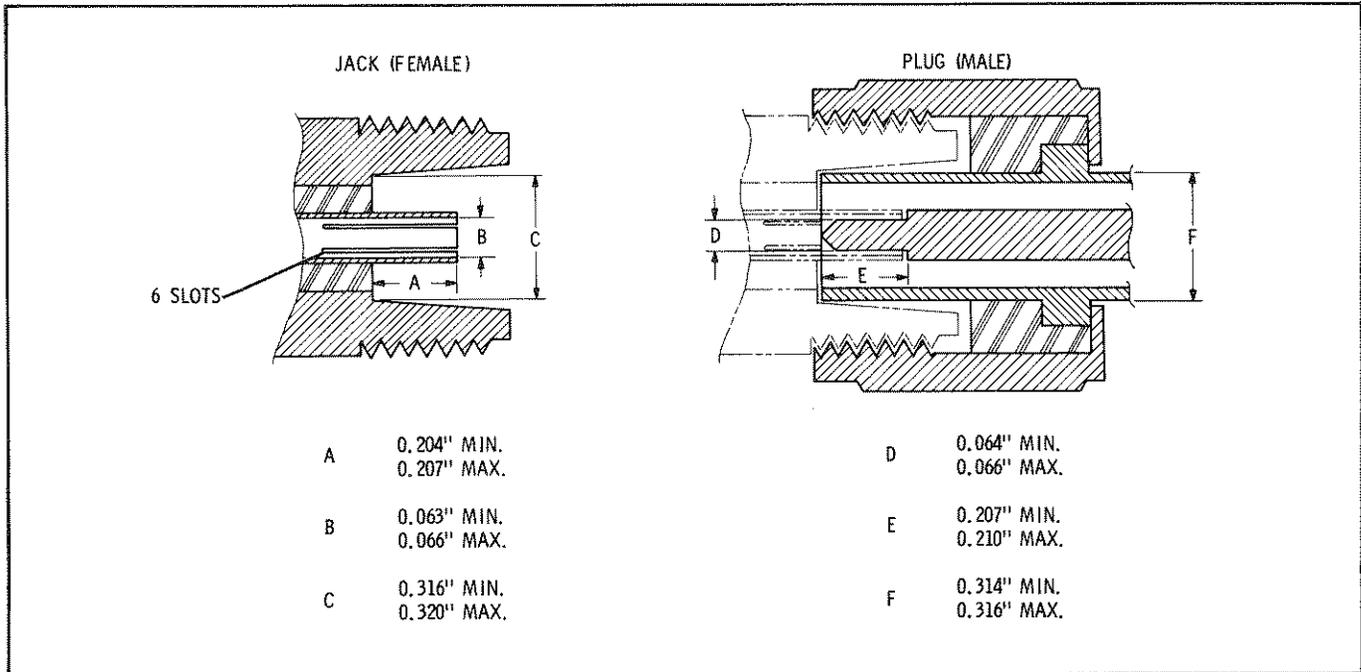

Figure 5. Type-N Connector Dimensions
**27. Type-N Connectors.** Type-N connectors used on the Model 779D are stainless steel for long wear and are compatible with connectors whose dimensions conform to MIL-C-39012 or MIL-C-71 (see Figure 5).